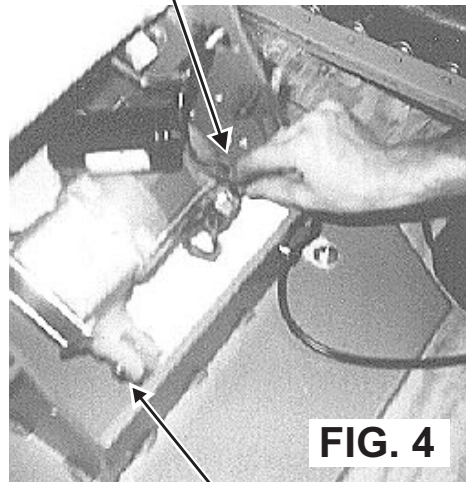

FIG. 4
9. Unplug the motor from the wiring harness. See Figure 4.
10. Disconnect the end of the motor shaft by removing the pin that is held in place by (2) 'E' rings. See Figure 4.